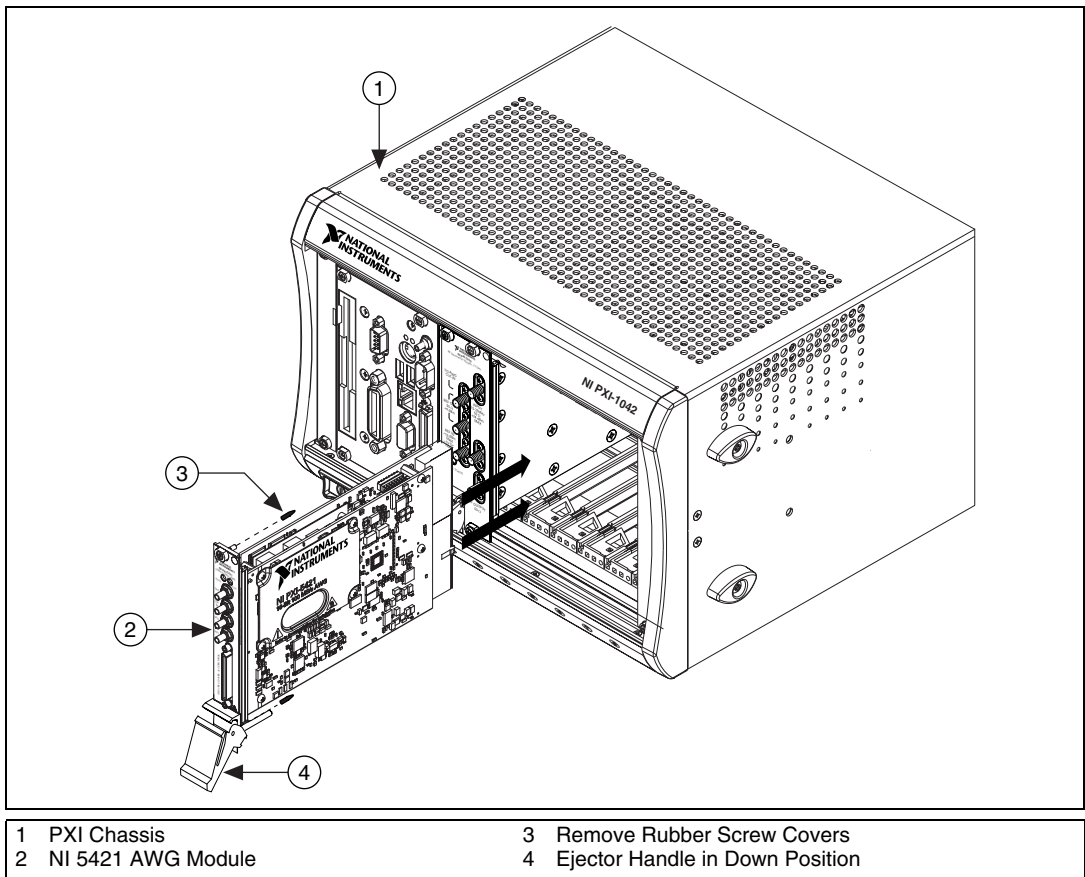

Figure 1-5. Install the NI 5421 AWG Module
2. Install the NI 5421 AWG module as shown in Figure 1-5.